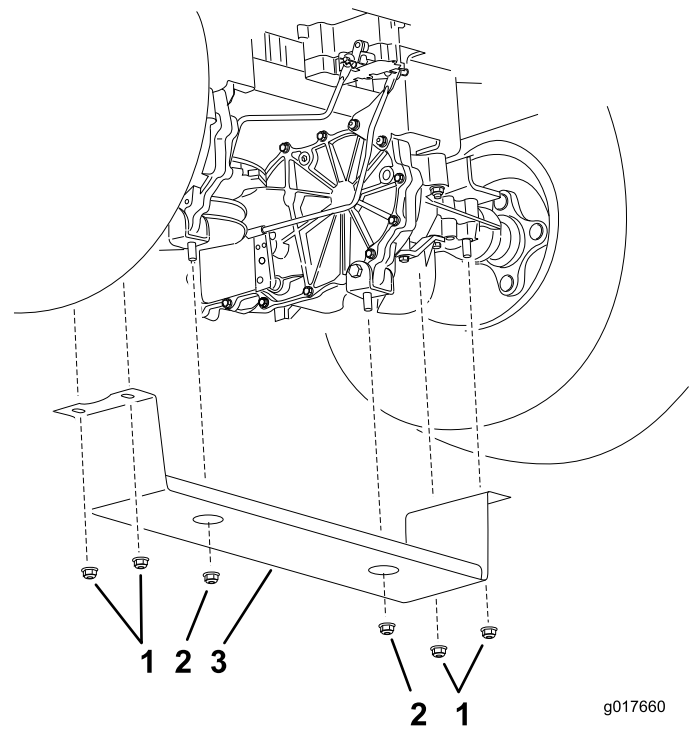

Figure 36
3. Remove the nuts holding the transaxle support in place (Figure 36).
8. Install the transaxle guard. Refer to Figure 36 for the correct torque values for the nuts and bolts.